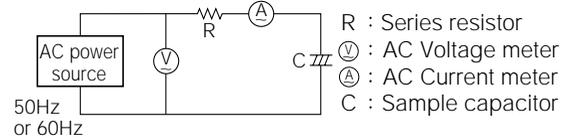

Fig. 2-5
(1) In the circuit shown in Fig.2-5 a series resistance "R" is selected from Table 2-1 in accordance with the rated capacitance of the capacitor to be tested.